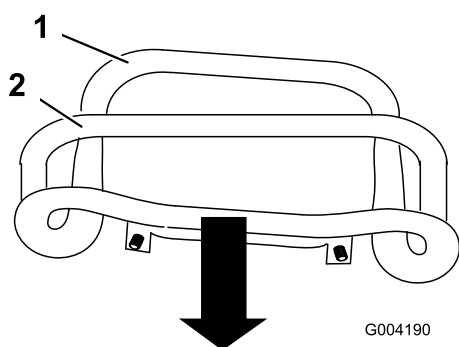

Figure 43
3. Pull straight back on the traction control so the front of the control contacts the reference bar (Figure 43).